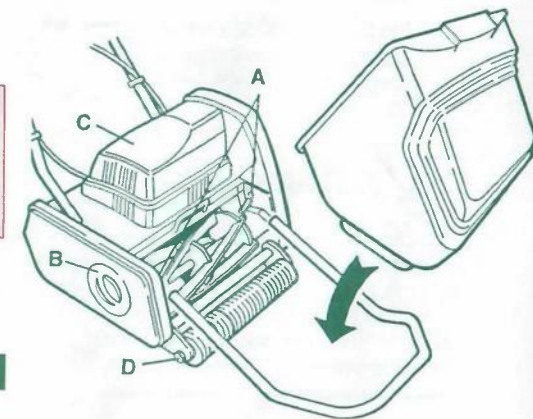

figure 2
Spring the grassbox cradle into the pivot holes as shown fig.2(A)
Fit the grassbox as shown fig.2.
- 2) Remove the front roller and roller shaft by removing nut fig.2(D) and slackening nut fig.2(D) on the other side.
Your mower has five heights of cut which gives the following, by pushing in and turning the height-of-cut knob fig.2(B) clockwise or anti-clockwise, taking the weight of the mower by pushing down on the handles:-
- 1) Clean the mower down thoroughly, remove any grass debris especially around the motor cover fig.2(C).